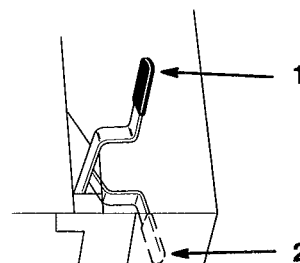

Figure 2
2. Pull back on the parking brake lever to set the parking brake (Fig. 2). The parking brake lever should stay firmly in the “ENGAGED” position.
1. Push forward on the parking brake lever (Fig. 2). The parking brake is “DISENGAGED” and the lever rests against the front of the opening.